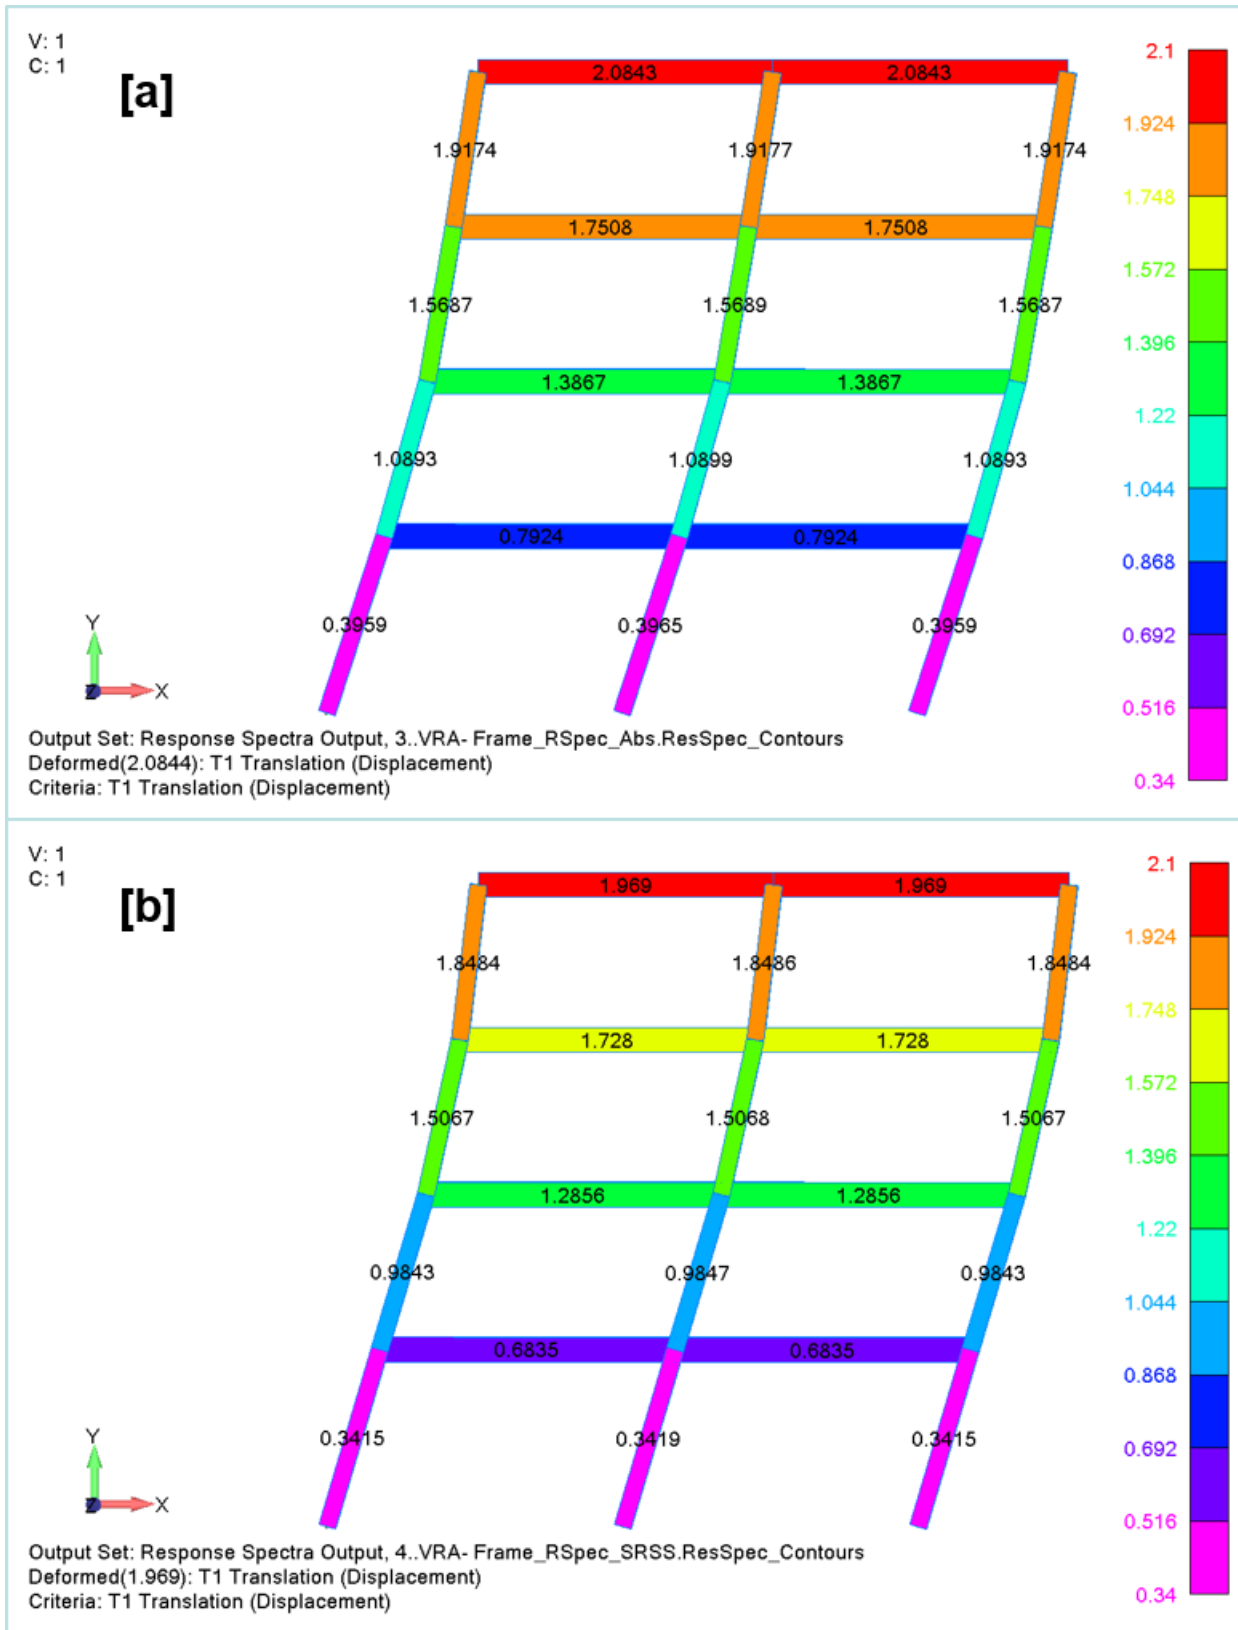
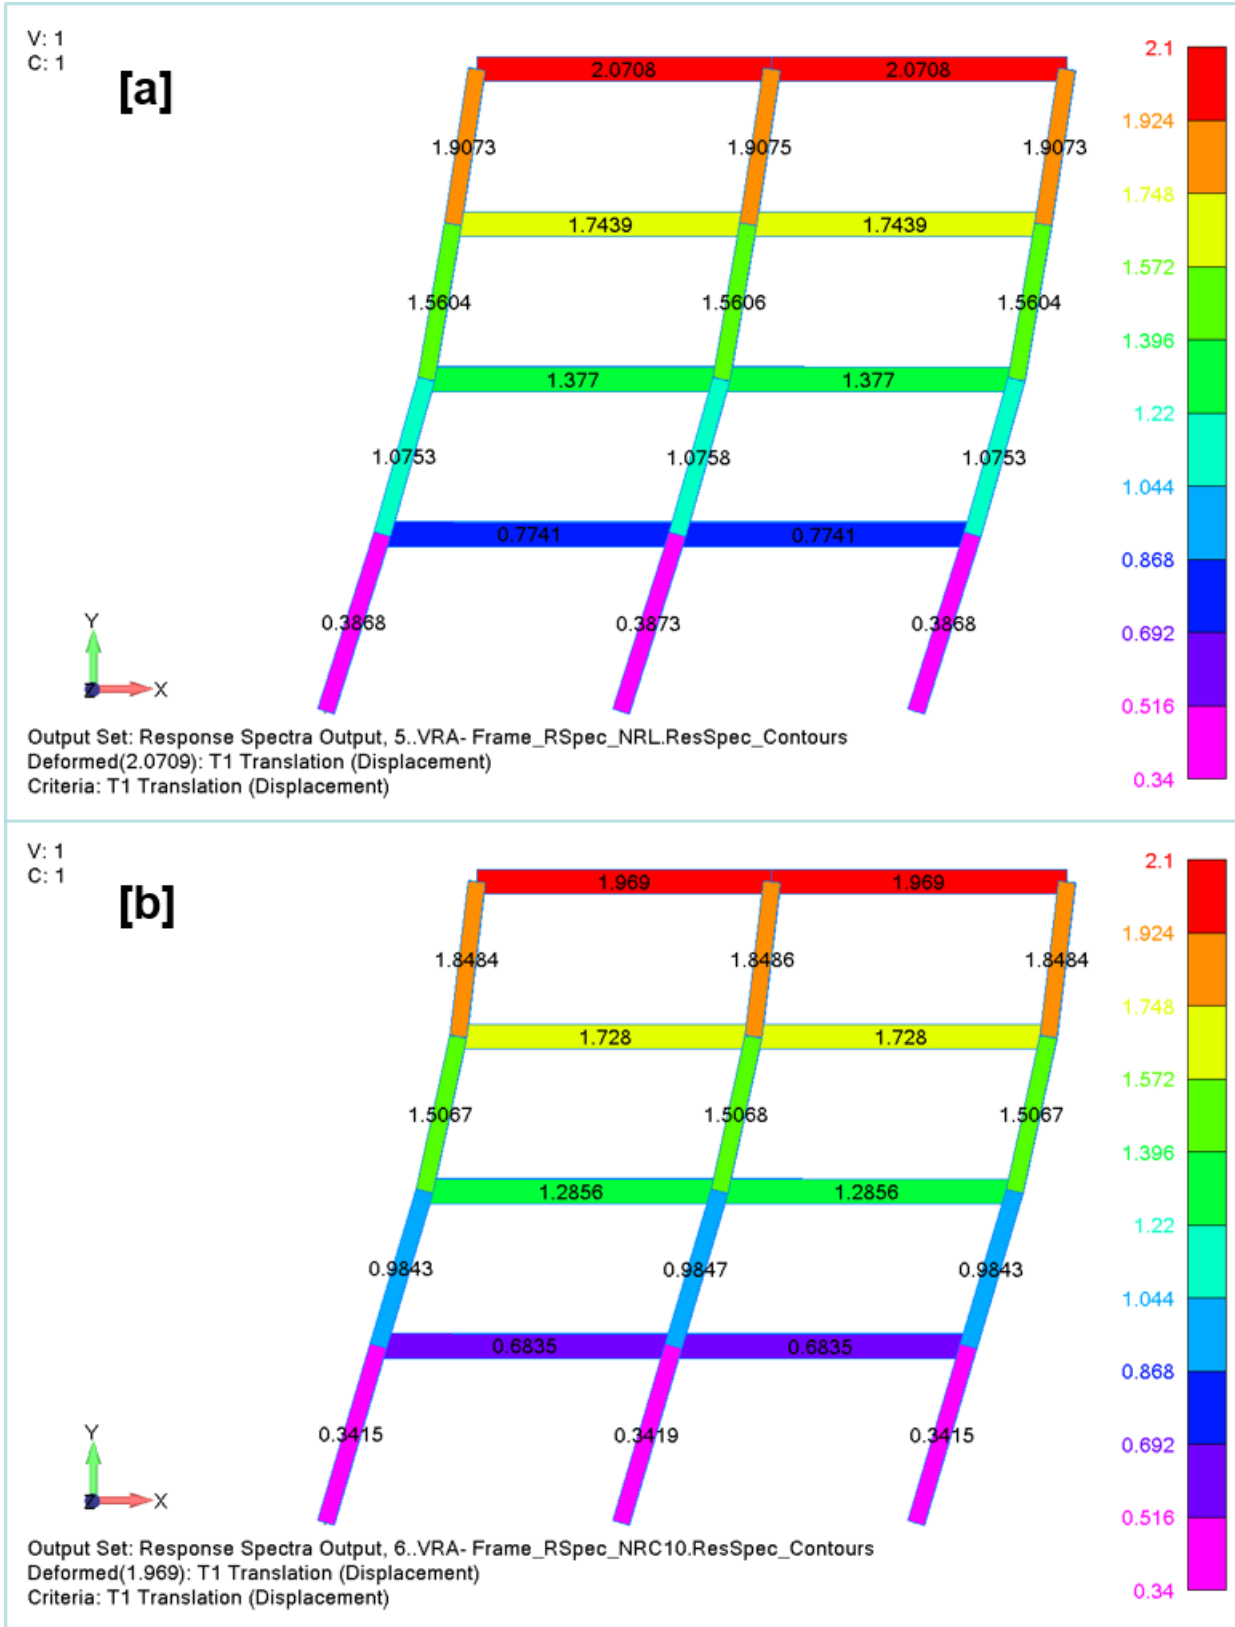
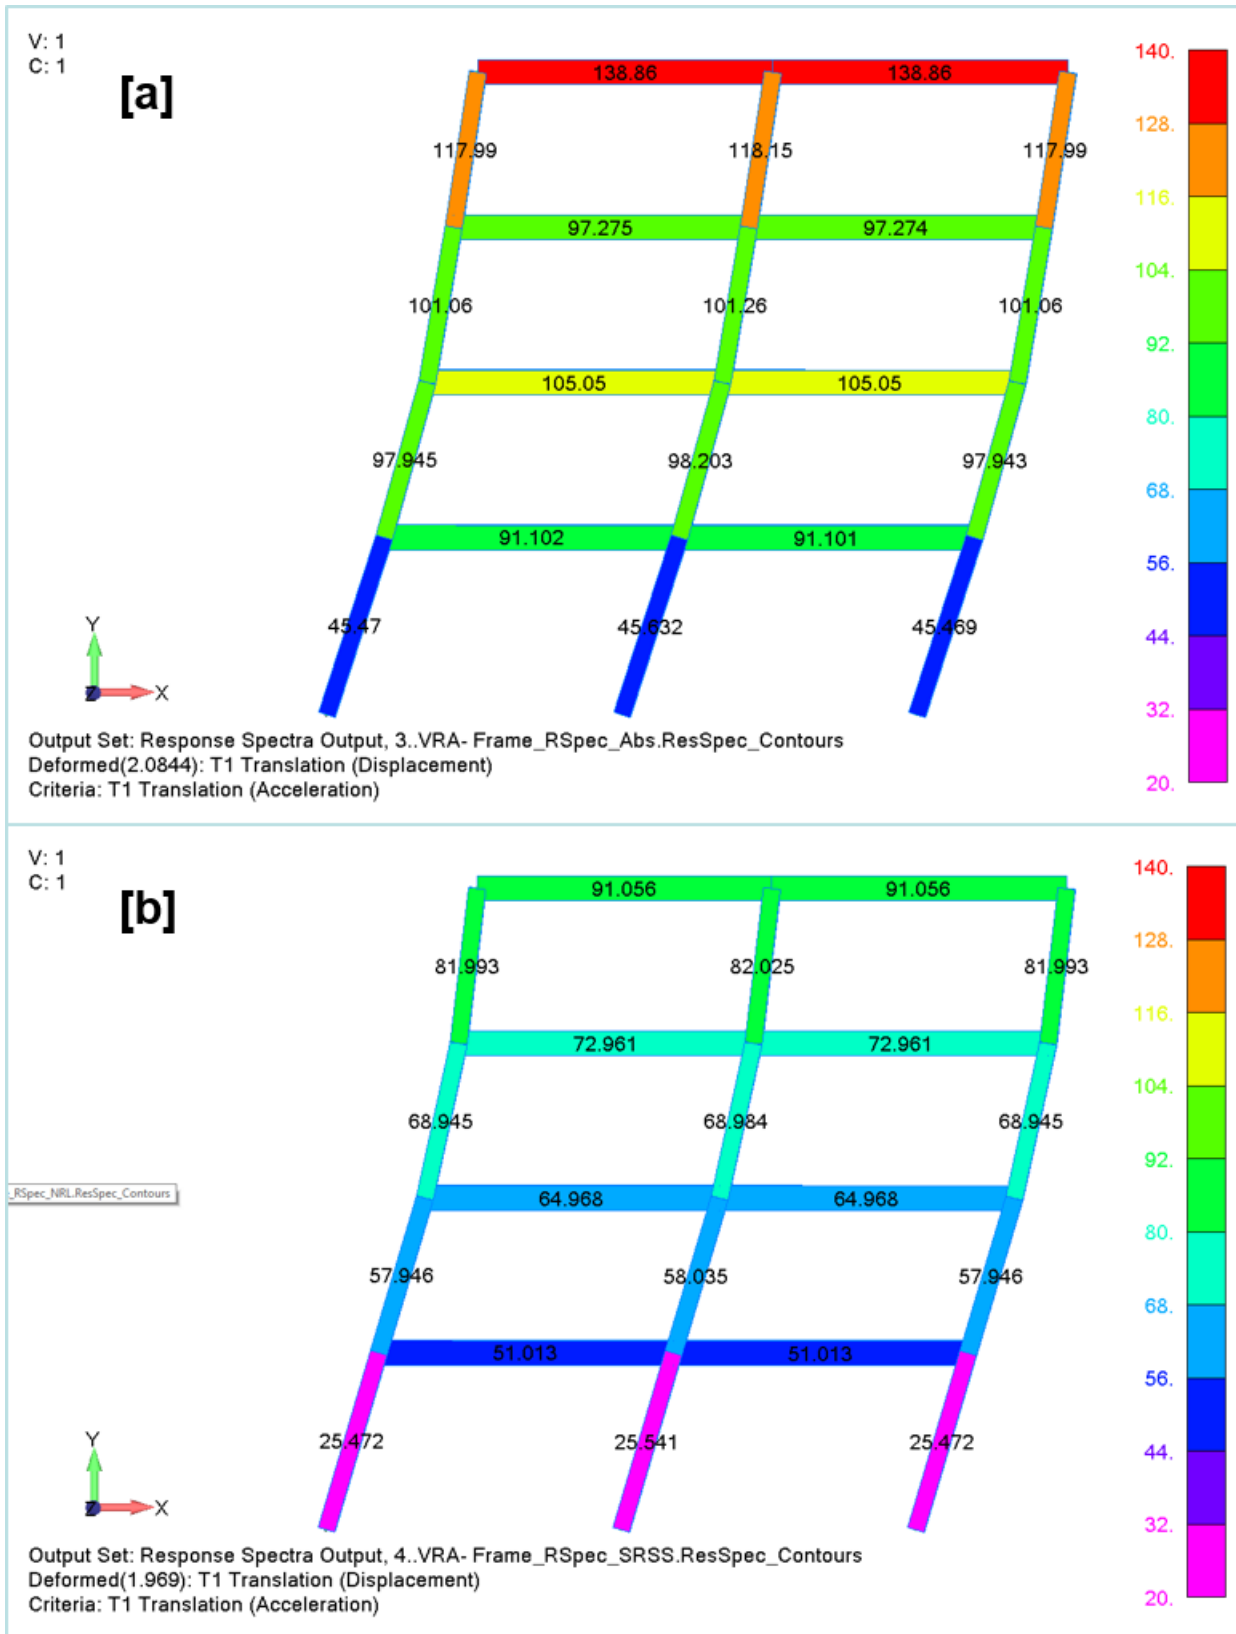
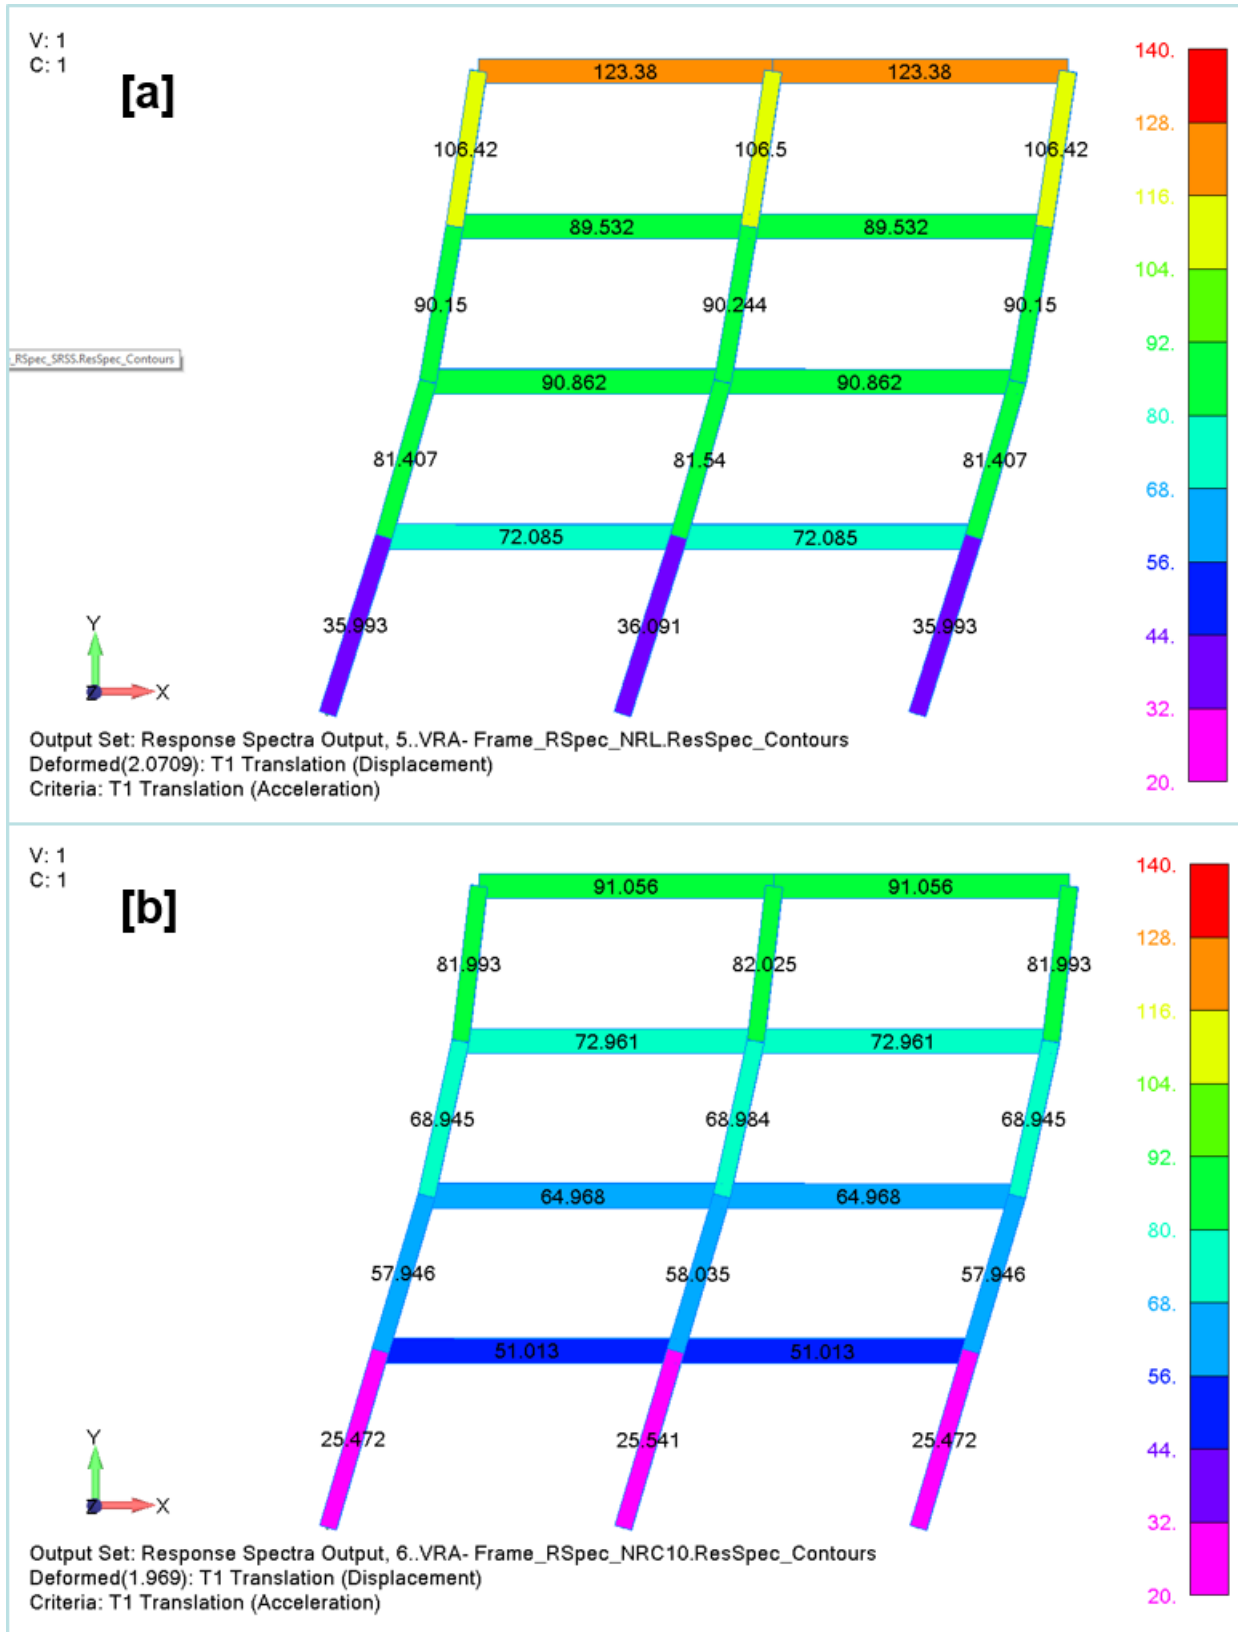

Figure 4-87. Displacements for [a] absolute value and [b] SRSS methods.
Figure 4-88. Displacements for [a] NRL and [b] NRC 10% methods.
Figure 4-89. Accelerations for [a] absolute value and [b] SRSS methods.
Figure 4-90. Accelerations for [a] NRL and [b] NRC methods
13. The displacement results are shown in Figure 4-87 and Figure 4-88. For all of the displacement plots, the color bar has been set to 10 intervals with the range from 0.34 to 2.1 inches. The acceleration results are in Figure 4-89 and Figure 4-90. The color bar range in these plots is from 20 to 140 in/s2.